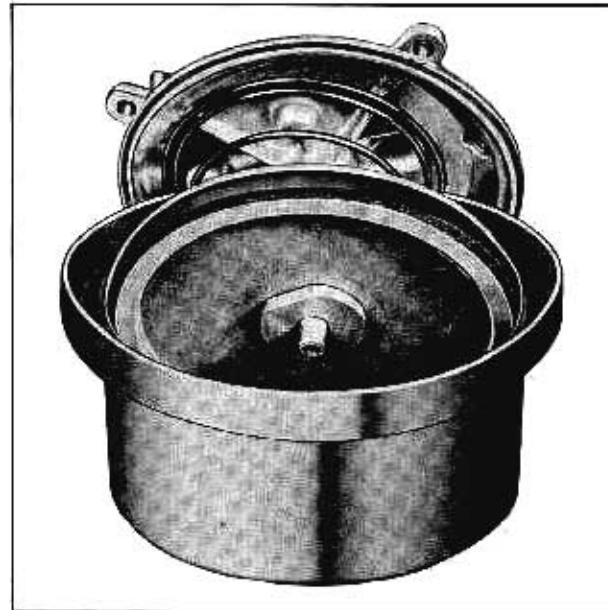

Fig. 9-12 Installing Piston in Cylinder Shell
18. Insert piston into shell by tipping piston as shown in Fig. 9-12.